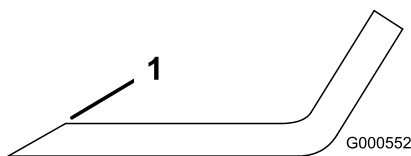

Figure 62
1. Use a file to sharpen the cutting edge at both ends of the blade (Figure 62).
**Note:** If the blade is not balanced, file some metal off the end of the sail area only (Figure 62).